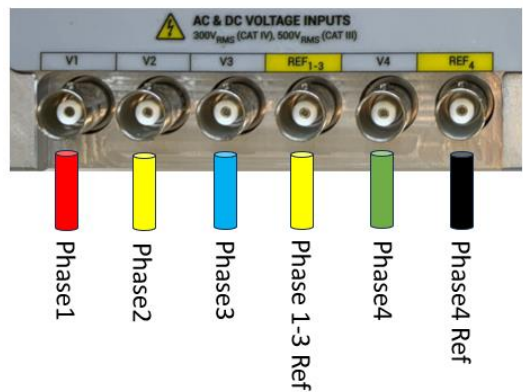

Figure 20: VECTO Transient - 4-Wire (Star) Voltage Connection Layout
- Connect Phase 1,2 and 3 to Voltage Inputs 1-3 as shown in Figure 20.